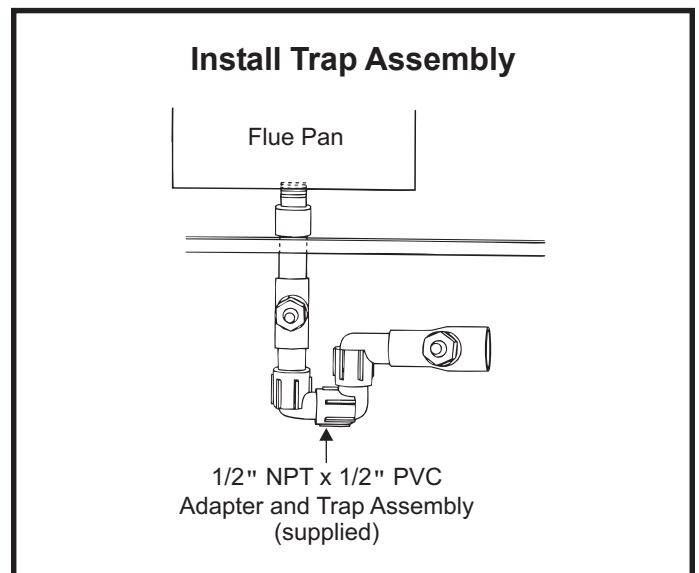

Figure 20
3. Insert trap assembly (supplied) into flue pan (see Figure 20).